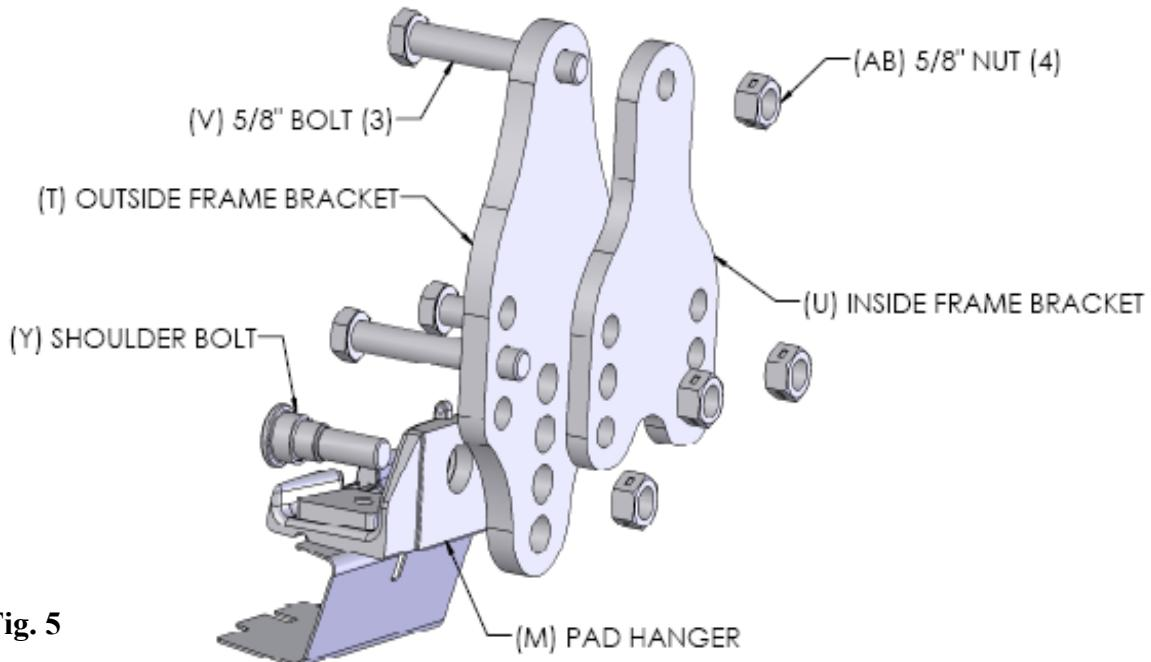
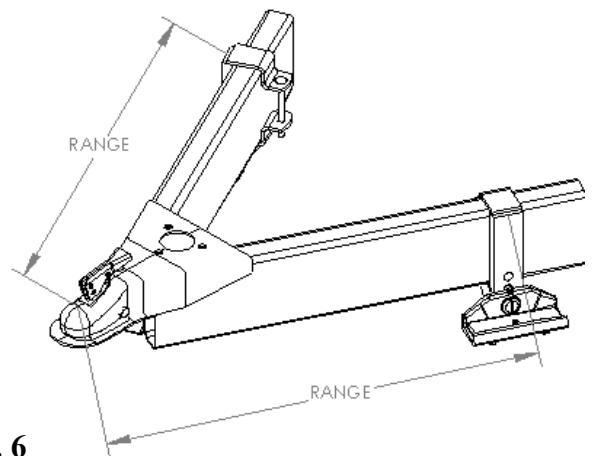

Fig. 5
Fig. 6
- Slide frame brackets into position, the center of the frame brackets should be placed as shown in Fig. 6. See Chart 1 on page 4 for dimension specification.
FRAME BRACKET ASSEMBLY (1200 lb and 1500 lb kits only, shown in Fig. 5)
- Assemble 5/8" bolt (V) through the top holes of the outside frame bracket (T) and inside frame bracket (U) shown in Fig. 5.
- Install three 5/8" nuts (AB) and hand tighten.
See Fig. 6